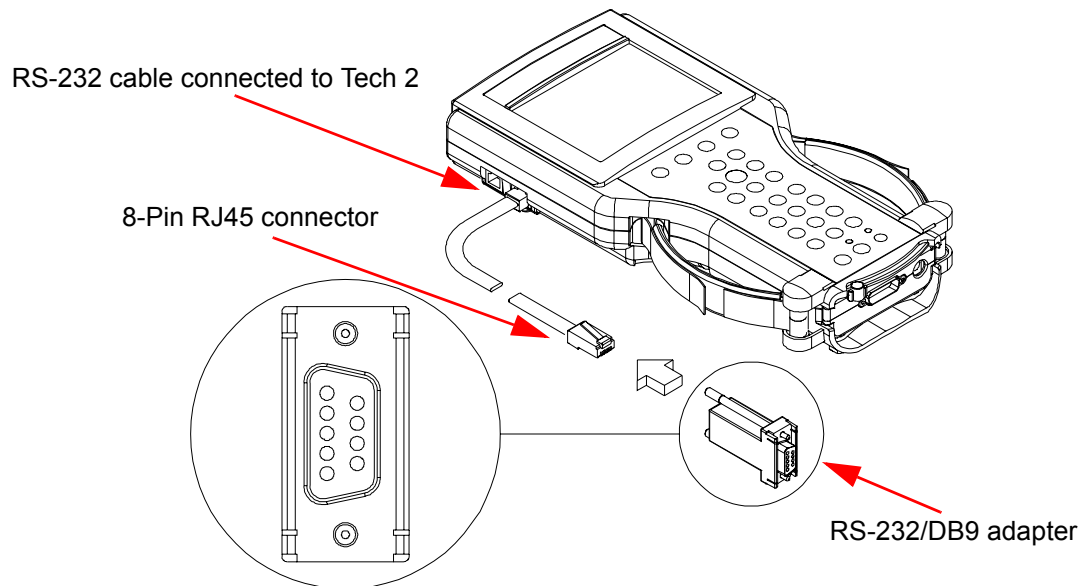

FIGURE 5-3. RS-232/DB9 Adapter Connections
- Make sure that the RS-232 cable (P/N 02001358) is attached to the Tech 2 RS-232 port located on the left side of the Tech 2 (Figure 5-3).
The RJ45/BB9 adapter (P/N 02001030) has an RJ45 connector at one end and a DB9 connector at the other (Figure 5-3). This adapter allows the connection of the Tech 2 to a PC.
The loopback adapter (P/N 02001606) has an 8-pin RJ45 connector that attaches to the Tech 2 RS-232 port (Figure 5-3). It is used to perform the Tech 2 self test.